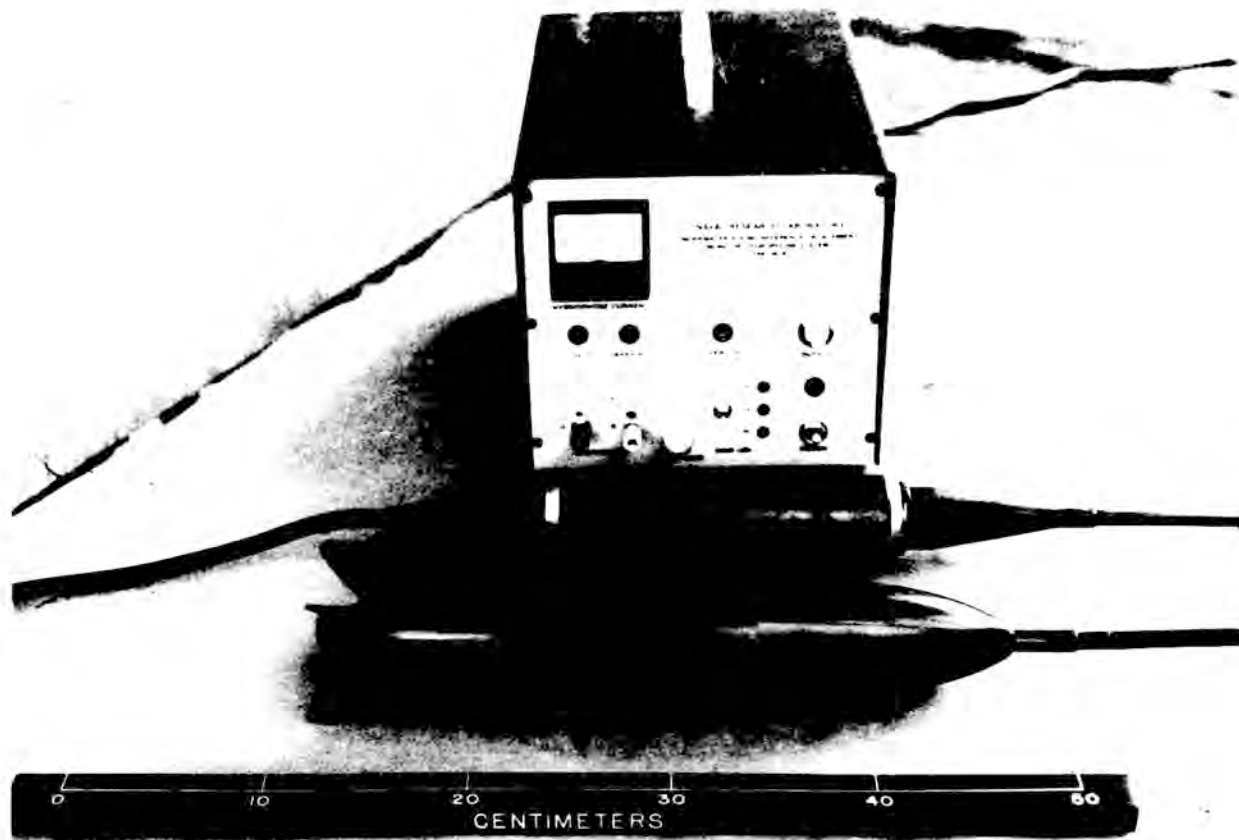

Fig. H91-1 - Type H91 hydrophone system.
**DESIGN:** The sensor is a PZT sphere potted in polyurethane. The system operates at three different gain levels as shown in Table H91-1. The cable between the preamplifier and the demodulator can be up to 6 km long and must be furnished by the user (see Figs. H91-1 and H91-2).
**DIRECTIVITY:** Omnidirectional in the horizontal (XY) plane